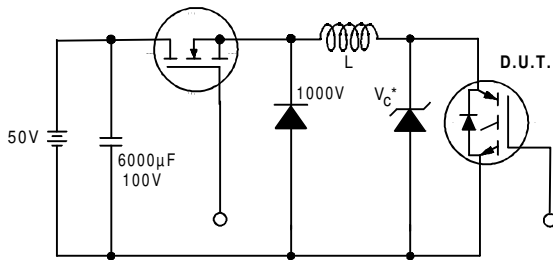

Figure 19. Clamped Inductive Load Test Circuit
- ② $V_{CC}=80\%(V_{CES})$, $V_{GE}=20V$, $L=10\mu H$, $R_G=50\Omega$ (figure 19)
- ③ Pulse width $\leq 80\mu s$; duty factor $\leq 0.1\%$.
- ④ Pulse width $5.0\mu s$, single shot.